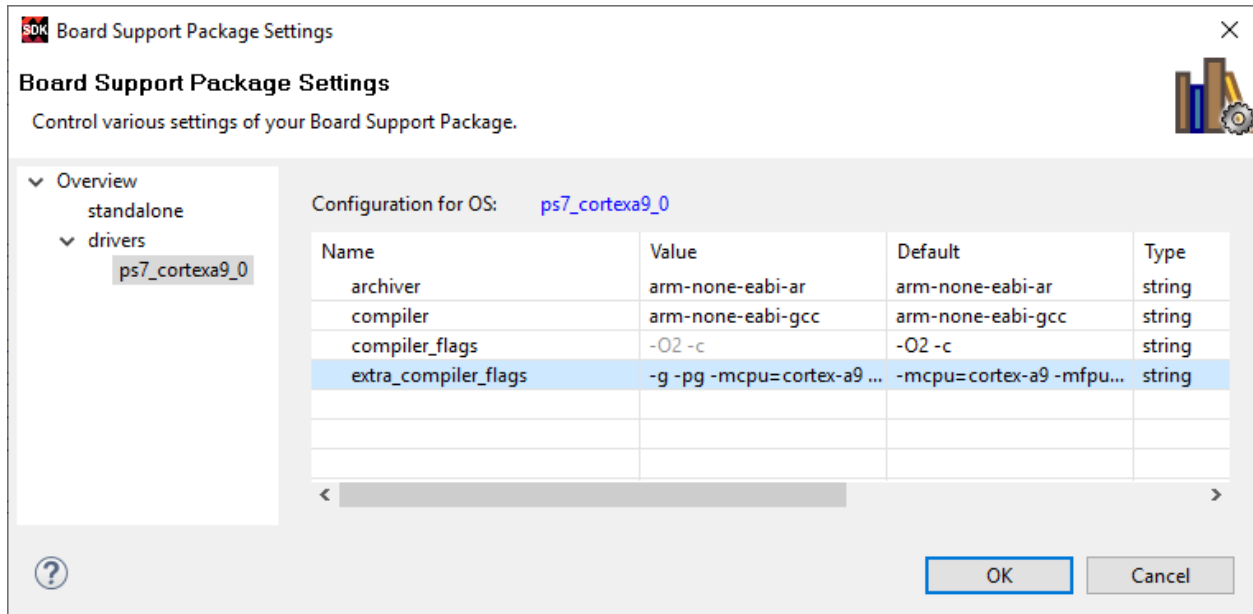

Figure 39: Adding Compiler Flags for Profiler.
6. Select **Overview** → **drivers** → **ps7_cortexa9** and in the `extra_compiler_flags` field, add `-g` `-pg` to the front of the other flags, as in Figure 39. The complete field should read: